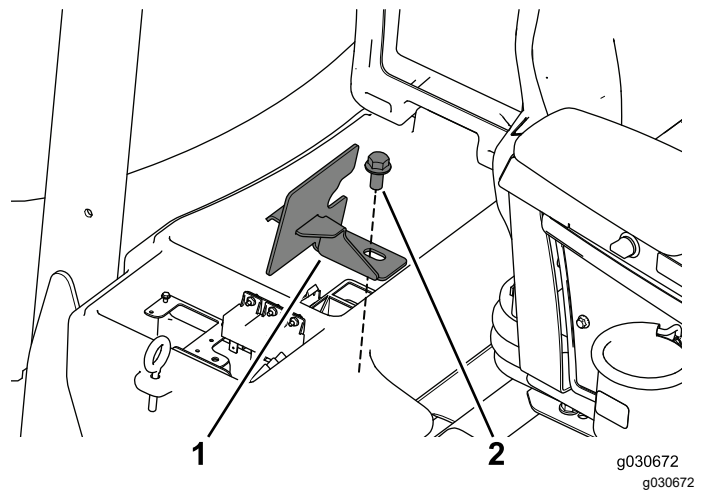

Figure 6
5. Remove and retain the bolt and the battery-compartment clamp (Figure 6).